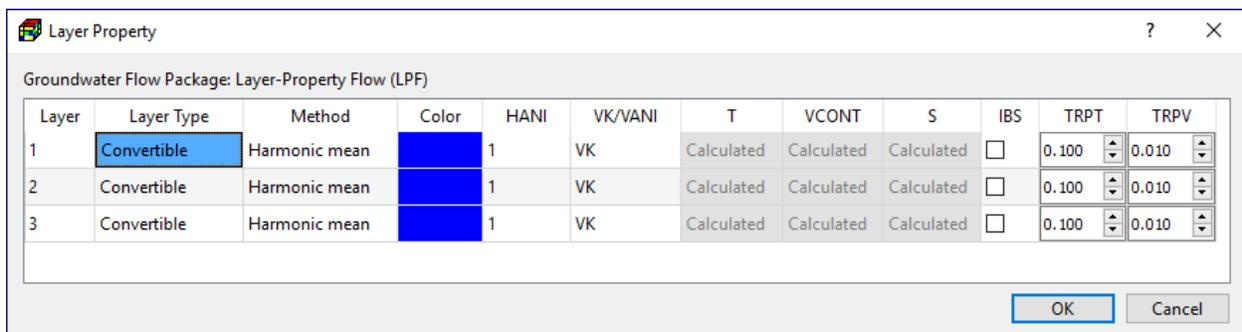

Figure 8. The Layer Properties dialog box
1. Select Discretization > Layer Property to display the Layer Property dialog box (Figure 8). By default, all model layers are convertible between confined and unconfined. The Layer-Property Flow Package of MODFLOW handles a cell in a convertible layer in the following manner: